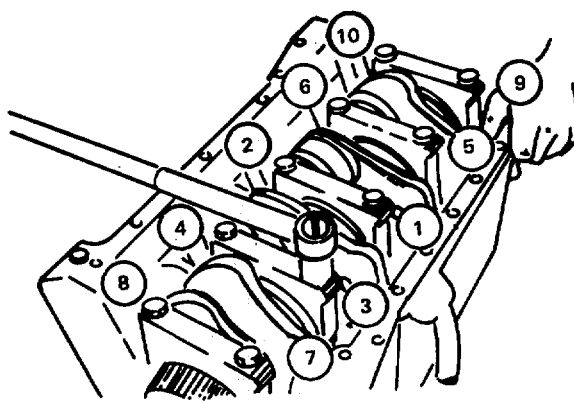

FIGURE 4-75. Capscrew Tightening Sequence.
- h. Tighten the capscrews evenly following the illustrated sequence. (FIGURE 4-75)